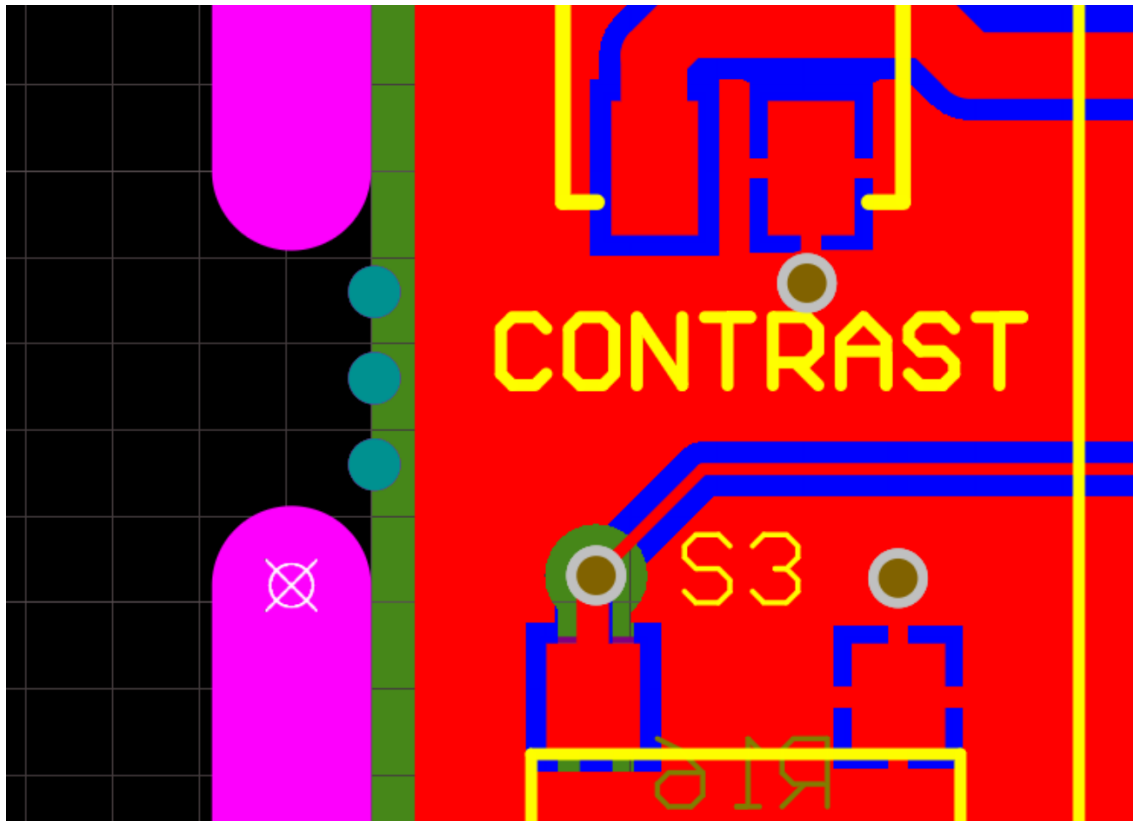

Figure 24. Placing the breakout tab on the route path edge
45. With the `SINGLE_SIDE_BREAKOUT` footprint on your cursor, place the origin of the footprint onto the edge of the route path gap as shown in Figure 24. Use the **Spacebar** to rotate the footprint as necessary.